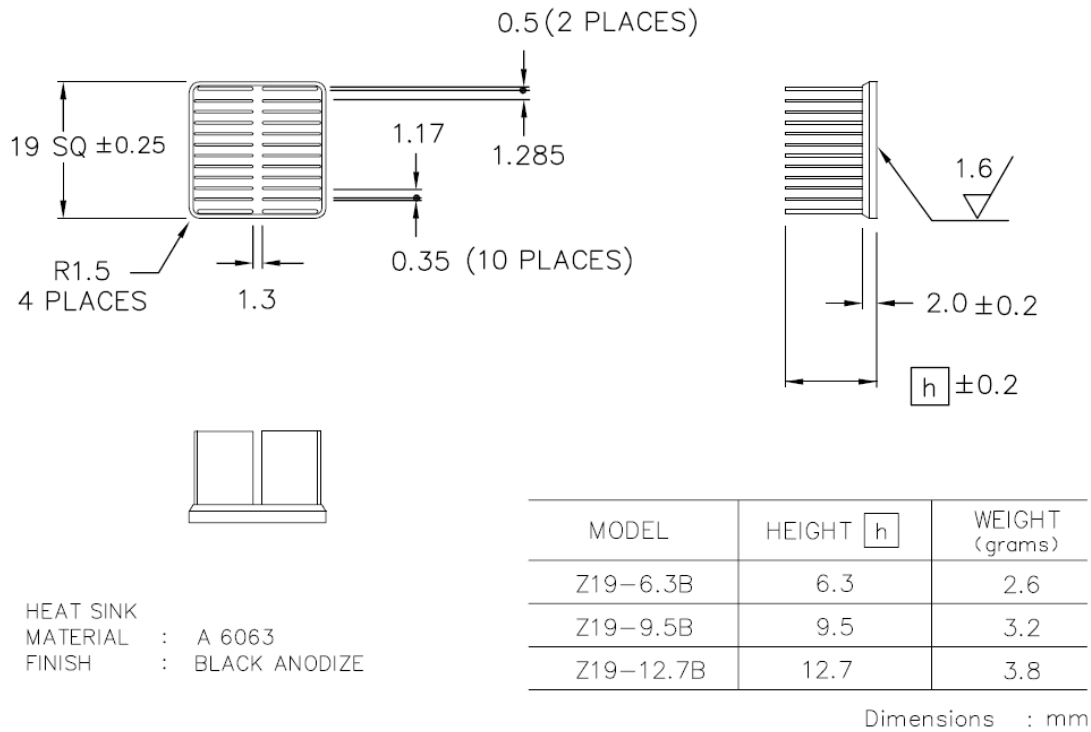
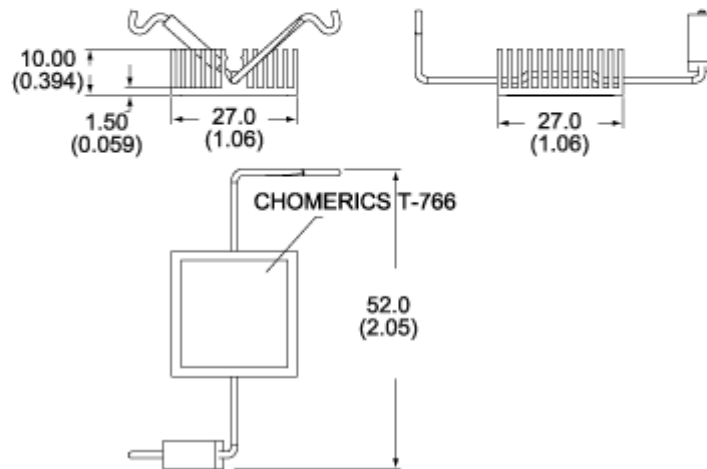

Figure 7.2. 6.3 mm Tall Passive Heat Sink (Alpha Novatech, Inc. PN: Z19-6.3B)
Figure 7.3. 10 mm Tall Passive Heat Sink (AAVID Thermalloy PN: 374324B60023G)
1. Max T_{case} is based on 27 x 27 x 10 mm Thermalloy heat sink as shown in Figure 7.3.
1. 101.5 mm x 114.5 mm, 2s2p JEDEC board using 19 x 19 x 6.3 mm Alpha Novatech* heat sink as shown in Figure 7.2.
2. 101.5 mm x 114.5 mm, 2s2p JEDEC board using 27 x 27 x 10 mm Thermalloy* heat sink as shown in Figure 7.3.
If required, the following extruded heat sinks are suggested for I347-AT4 thermal solutions. They can be seen as shown in Figure 7.2 and Figure 7.3 with their respective mechanical drawings.
- 19 mm x 19mm x 6.3 mm heat sink (Figure 7.2)
- 27 mm x 27 mm x 10 m heat sink (Figure 7.3)
Note: 19 x 19 x 6.3 mm Alpha Novatech HS in Figure 7.2.
Note: 27 x 27 10 mmmm Thermalloy HS in Figure 7.3.